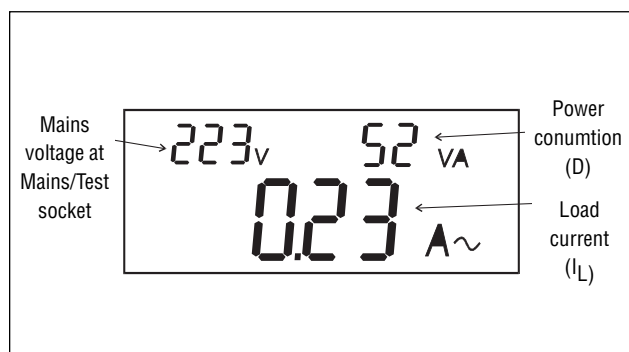

Fig.7.45
- Connect UUT to test / mains socket, see Figure 7.45: